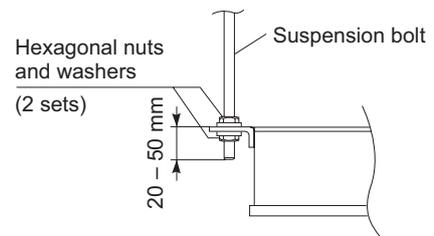

Fig. 1-37
- (3) Suspend and fix the indoor unit using the 2 hexagonal nuts (field supply) and special washers (supplied with the unit) as shown in Fig. 1-37.